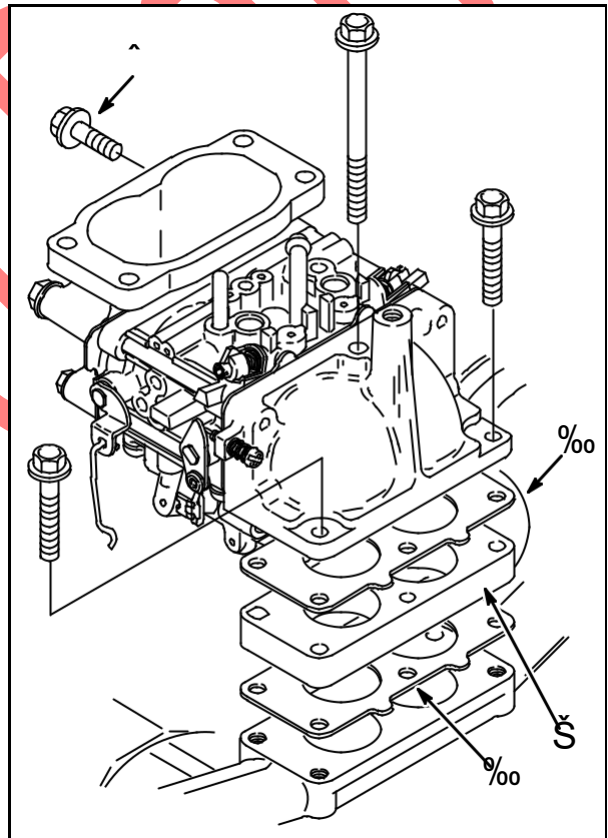

Fig. 19
Remove air cleaner elbow support screw (8), **Fig. 19**.